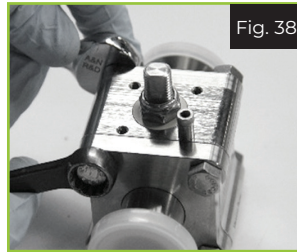

Fig. 38
3. Remove the four body bolts using the two 1/2" wrenches (Fig 38). Remove the end caps and place them in a safe location (Fig 39).